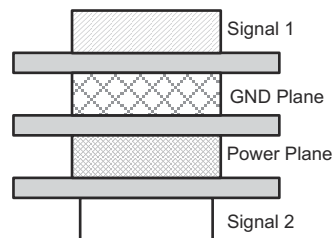

图 12-5. Four-Layer Board Stack-Up
8. Due to high frequencies associated with the USB, a printed circuit board with at least four layers is recommended; two signal layers separated by a ground and power layer as shown in Figure 12-5.